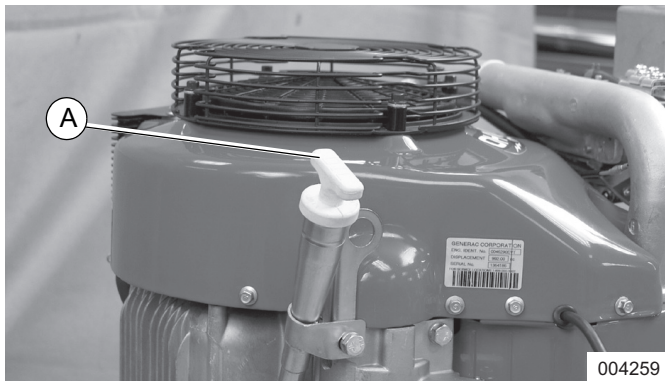
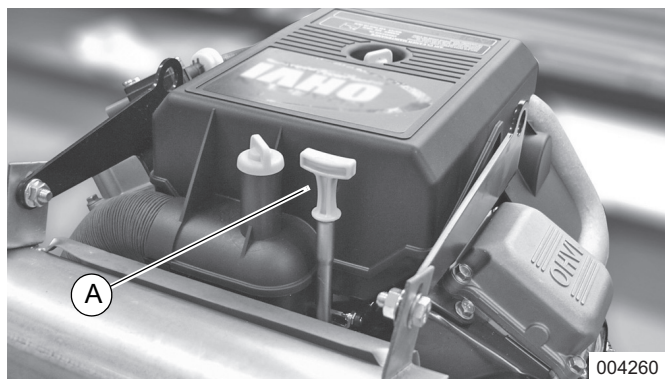
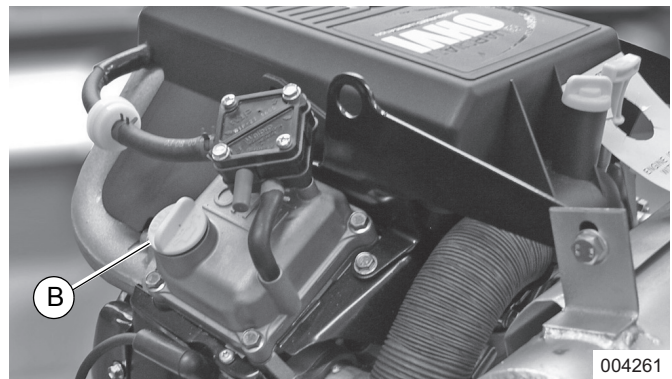

Figure 3-2. Oil Fill / Check—Vertical Engine
Figure 3-3. Oil Check—Horizontal Engine
Figure 3-4. Oil Fill—Horizontal Engine
Proper crankcase oil type and oil weight is extremely important. Check oil before each use and change oil regularly (see Figure 3-2 through Figure 3-6). Incorrect or dirty oil can cause premature engine wear and failure.
See **Figure 3-2** and **Figure 3-3**. Regularly check oil level on the dipstick (A) and maintain engine oil level.
- See **Figure 3-4**. On horizontal engines, add oil through the oil fill port (B).
2. See **Figure 3-2** through **Figure 3-4**. Remove dipstick (A) or oil fill cap (B) and refill slowly with new oil of proper service classification and viscosity grade. Refill to bottom of threads in oil fill opening.